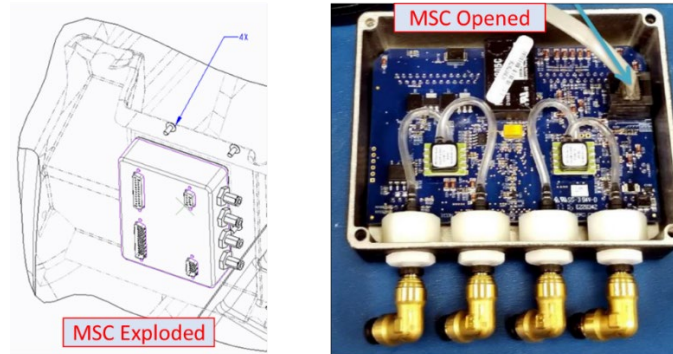

Figure 2: MSC Unit
3. Remove 4 screws from the back of the MSC panel and set aside and retain hardware for re-install, Figure 2.